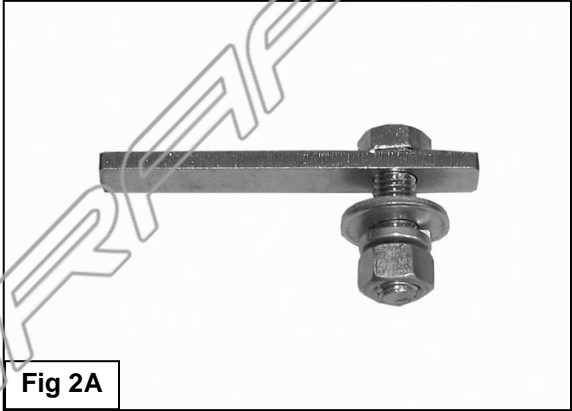

Fig 2A
- i. Starting on the driver side of the vehicle, insert (2) 12mm Bolt Plates through the opening in the end of the frame and down through the (2) holes in the bottom of the frame, **(Figures 2A & 2B)**.
- ii. Select the driver side Frame Mounting Bracket, **(Page 1)**. Attach the Bracket to the Bolt Plates with (2) 12mm Flat Washers, (2) 12mm Lock Washers and (2) 12mm